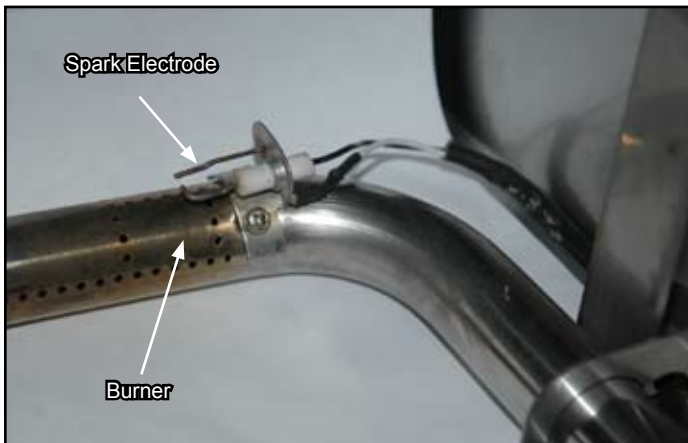

Figure 13
7. Check spark electrode, adjusting as needed. The Electrode tip should be pointing toward the burner ports approximately 1/8 inch from the burner surface. (See Figure 13).